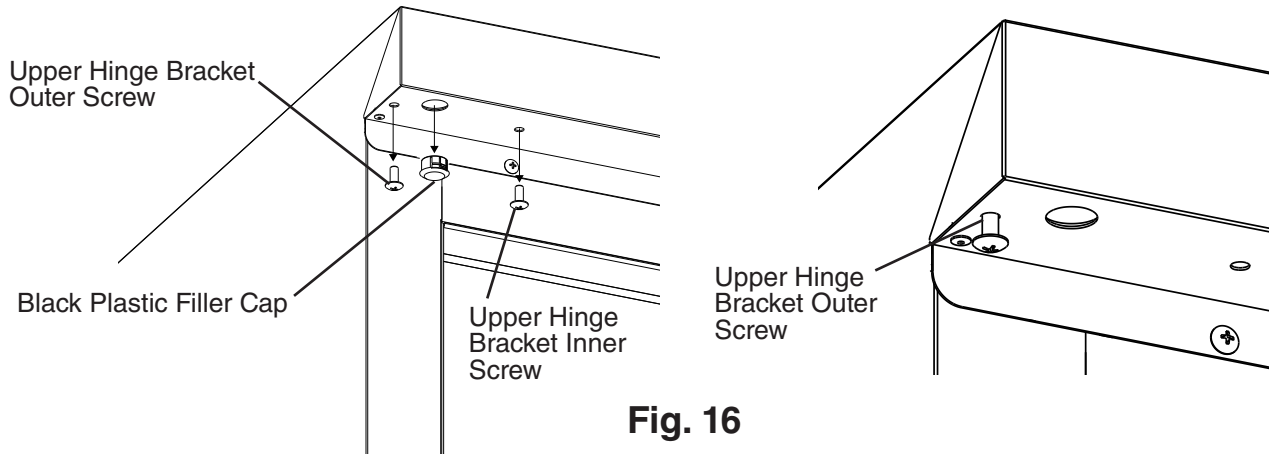

Fig. 16
- 13) Remove the upper hinge bracket screws from the new location and apply Loctite Threadlocker Blue 242 or 243 to the threads. Next, start the upper hinge bracket outer screw into the appliance. Rotate a few threads into the appliance; do not tighten the screw. See Fig. 16.